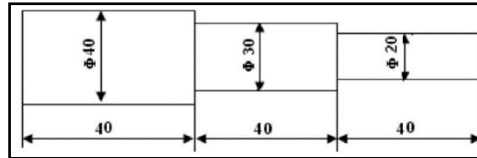

Figure 1.1. Stepped Pattern
- A pattern may help in establishing locating points on the mold and therefore on the casting with a purpose to check the casting dimensions in figure 1.1